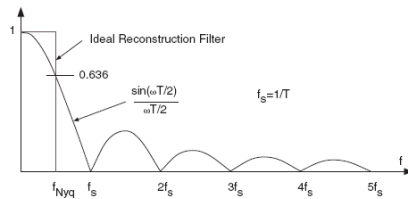

Figure 1.27. Amplitude response of the ideal and real sample-and-hold.
- Fig. 1.27 include the ideal reconstruction filter as well as the sinc function.